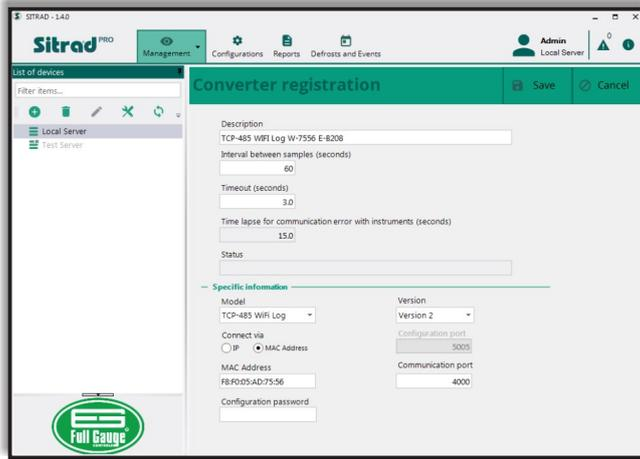

Figure 28
Step 4: Figure 28 shows the **Converter Registration** tab. Check the device data and edit if necessary. Sitrad^{PRO} identifies the **TCP-485 WiFi Log** as **TCP-485 WiFi Log with Version 2**. The "Connect via" field defines whether Sitrad^{PRO} will recognize the converter on the network by IP or MAC address. If the converter is configured in Client mode with dynamic IP, it is advisable to select the MAC Address option, as the device's IP may vary within the network. After configuring the desired parameters, click on the **Save** button to register the converter on the server.